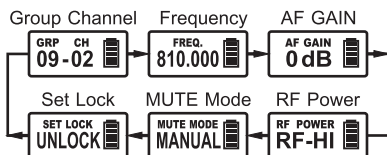

Fig. 10
5. Press SET button 6 once to denote a change. Existing parameter starts flashing. Press SET button second time to change the programmed parameters. Fig. 10